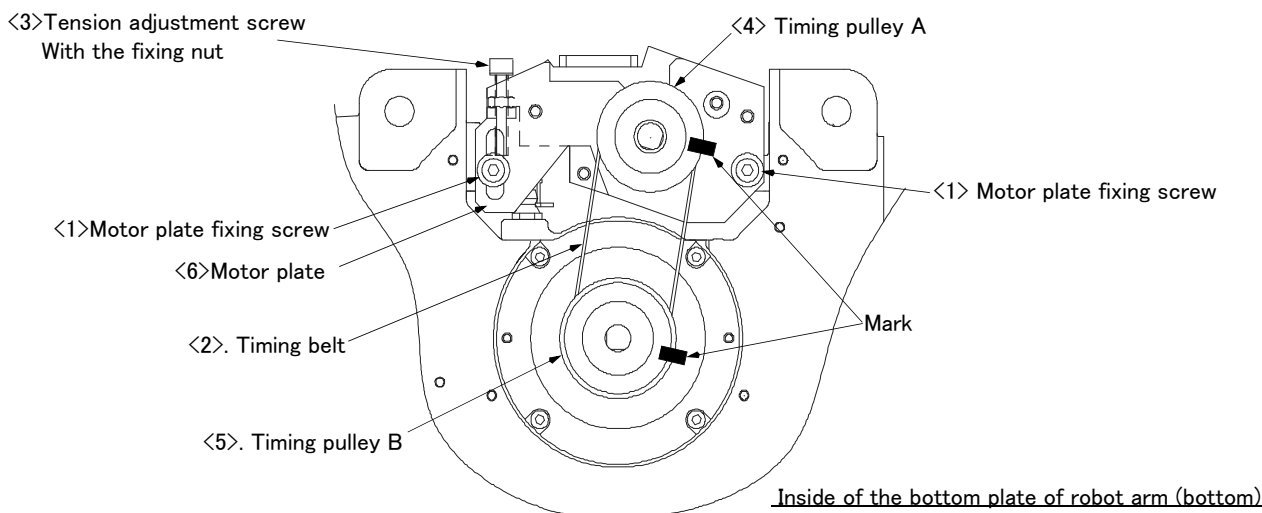

Fig.5-10 : Replacing the J1 axis timing belt (RV-2FR series)
- 5) The image figure inside the bottom plate of the robot arm is shown in Fig. 5-10.
- 7) Make marks on the timing belt <2> and timing pulleys <4> and <5> with a felt-tip pen as shown in Fig. 5-10 so that the engagement of the timing belt <2> and timing pulleys <4> and <5> does not deviate.